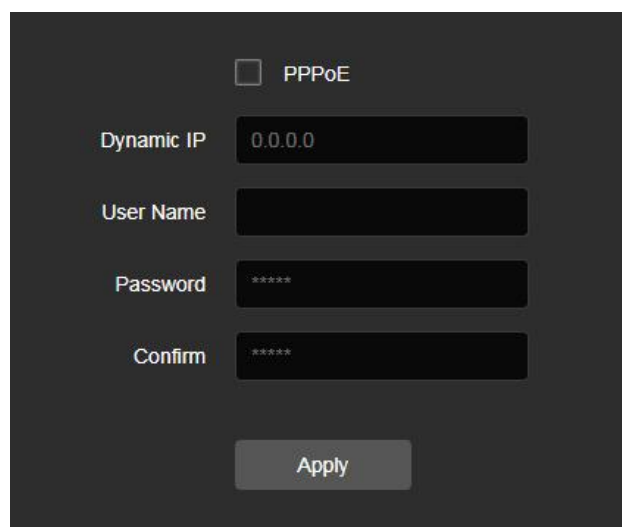

Figure 8-3-5
Step 1: In the main menu, click "Configuration → Network → Basic Settings → PPPoE" to enter PPPoE to set the interface, as shown in Figure 8-3-5.